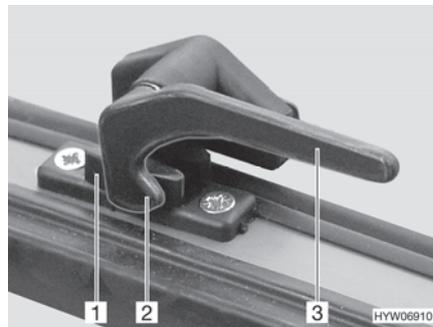

Fig. 46 Catch lever in "closed" position
- Turn the catch lever (Fig. 46,3) a quarter turn towards the centre of the window.
- Turn the catch lever (Fig. 46,3) a quarter turn towards the window frame. The locking catch (Fig. 46,2) is located on the inside of the window catch (Fig. 46,1).
- "Firmly closed" (Fig. 46)